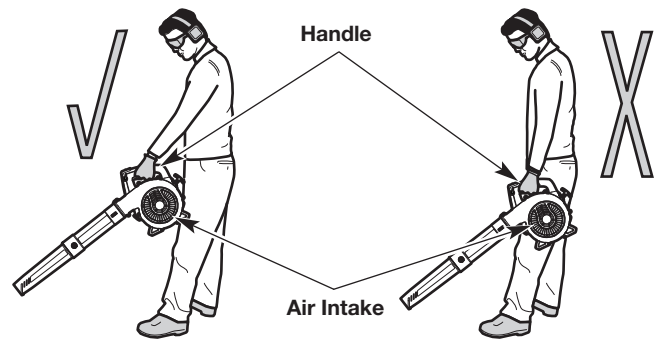

Fig. 8
- Stand in the operating position (Fig. 8). Stand up straight. Do not bend over.
- Hold the unit in front of, and away from, your body (Fig. 8).
**WARNING:** To prevent serious personal injury or damage to the unit, **DO NOT** hold the unit at your side (Fig. 8). The engine may be extremely hot. **DO NOT** block the air intake.